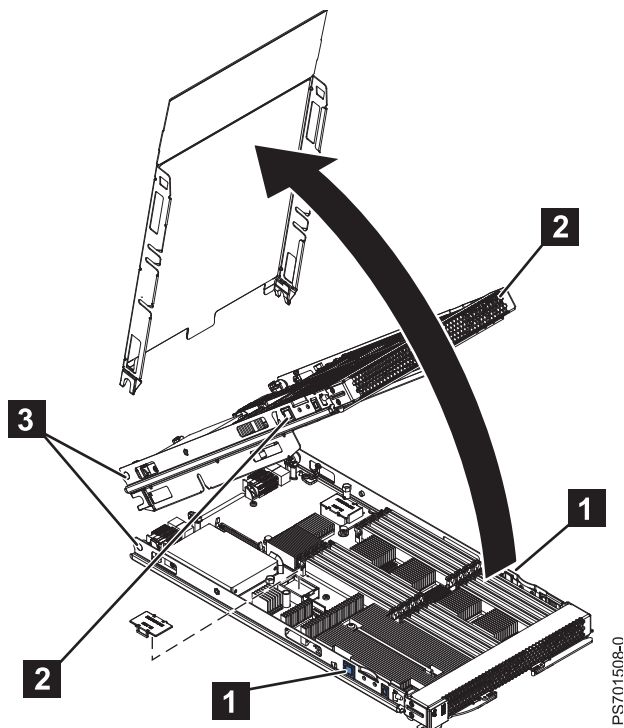

Figure 8. Removing the cover
4. Press the blade-cover release (as shown by **1** for the base unit and by **2** for the expansion unit in Figure 8) on each side of the blade server, rotate the cover on the cover pins (**3**) and lift the cover open.